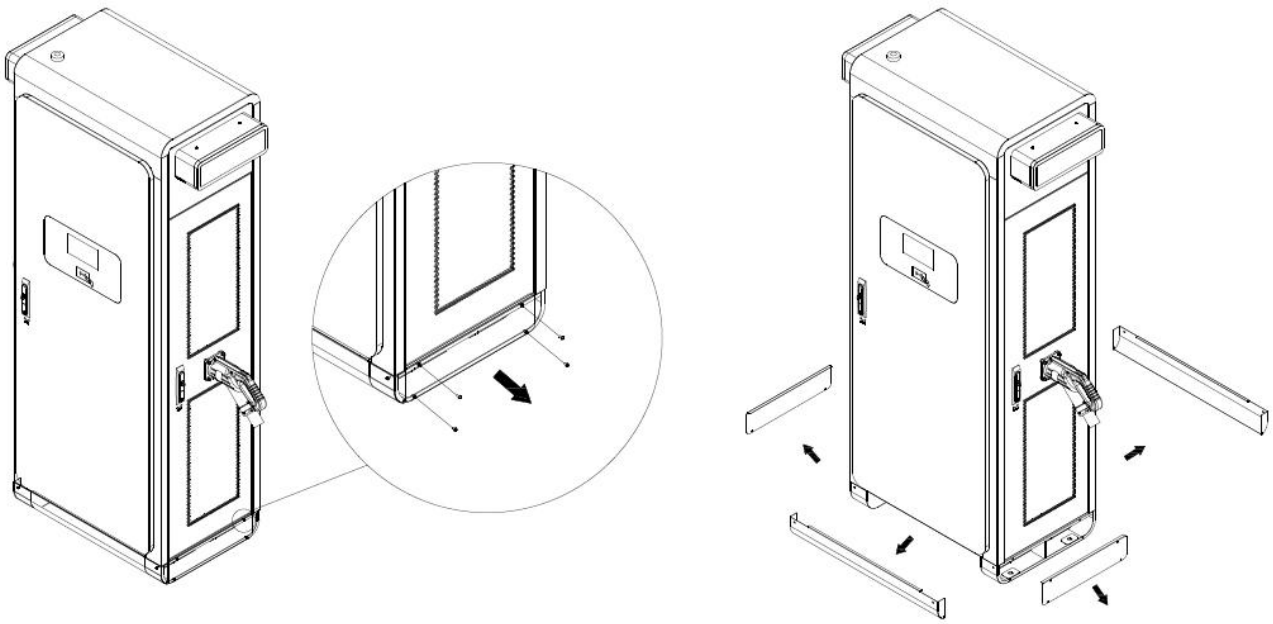

Figure 6
- Use a screwdriver to remove the baffle at the bottom, as shown in Figure 6.